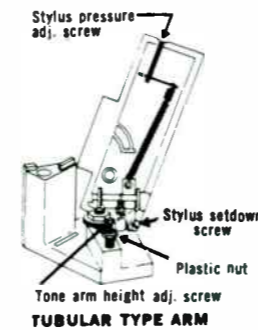

Figure 13
To raise, hold plastic nut (174) firmly and turn screw head (173) by hand counterclockwise: to lower, turn screw head (173) clockwise. Adjust stylus to clear a full stack of records by 1/8". (See fig. 13)